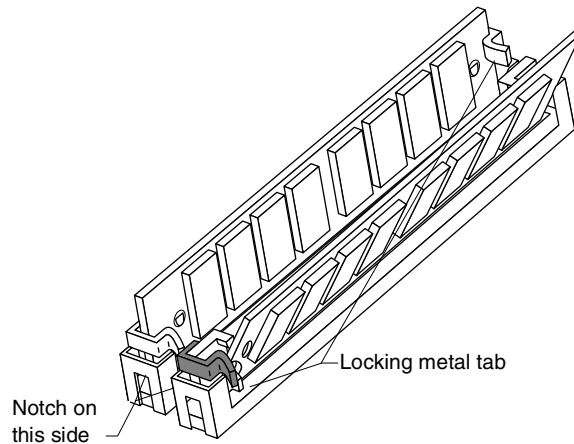

Figure 5-7 Details of a Pair of SIMM Slots
3. Hold the SIMM by the edges and insert it into the slot with the notch in the SIMM facing toward the left side of the case. See Figure 5-7.
1. Use either your two forefingers or your thumbs or use a small flat-blade screwdriver to push back the two metal tabs located on each end of the SIMM slot. (See Figure 5-7.)